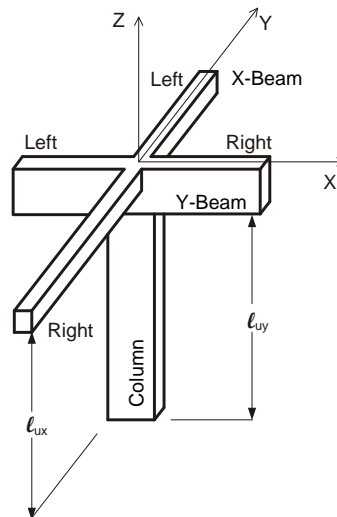

Figure 2-6 Slenderness Input Convention
5. The convention for the slenderness input of beam and column dimensions and their orientation is presented in Figure 2-6. Beams above the columns are shown. Same convention applies to beam below the column.